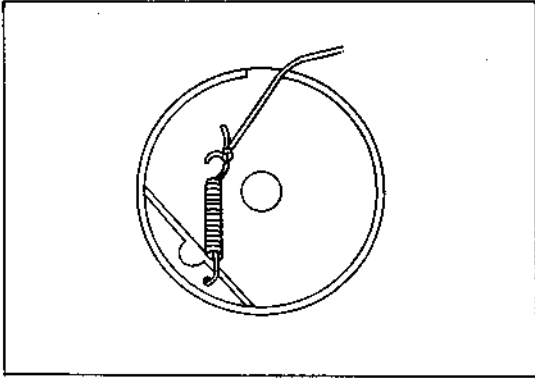

Fig. 2-6. Coil spring installation
1. Hook the spring to one hole of the drum as shown in Fig. 2-6.